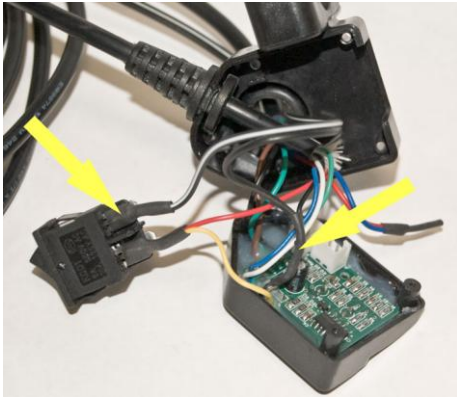

Fig. 2
5. If there is not 36V, check the voltage between two wires in the battery indicator (as two yellow marks on Fig. 2).